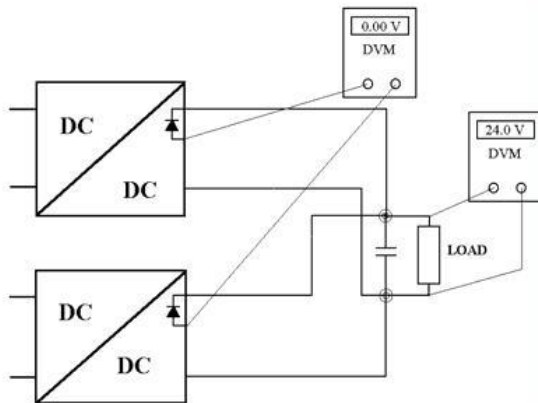

Figure 6. Adjusting output voltage measure at +Test or pin 8 on the H15 connector.
2. Measure the voltage at the load. Connect voltmeters as shown in *Figure 6*. If you have only access to one voltmeter you must move it around to make the adjustments.
3. To **increase** the output voltage. Increase the output voltage by turning the potentiometer marked "V.ADJ" clockwise on the unit with the lowest output voltage until you reach the desired voltage at the load or until the output voltage does not increase anymore (as the unit is in current limit). To find the unit with the lowest output voltage you can measure the voltage difference before the series diode, as in *Figure 6*. Repeat from i. until you reach the desired output voltage at the load.
anymore (as the other units supply all current). To find the unit with the highest output voltage, measure the voltage difference before the series diode, as in *Figure 6*.